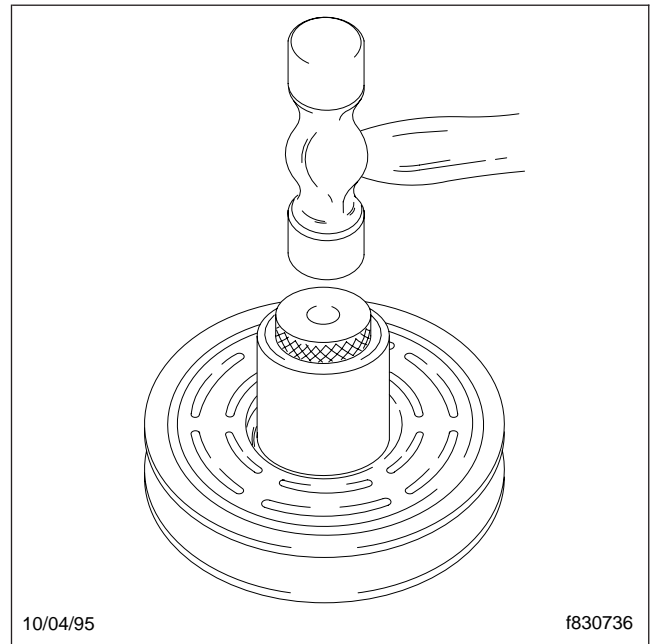

Fig. 7, Drive the Pulley Down Against the Front Housing Step.
- 2.3 Place the driver into the ring. Using a hammer or arbor press, drive the pulley down against the front housing step. See Fig. 7.